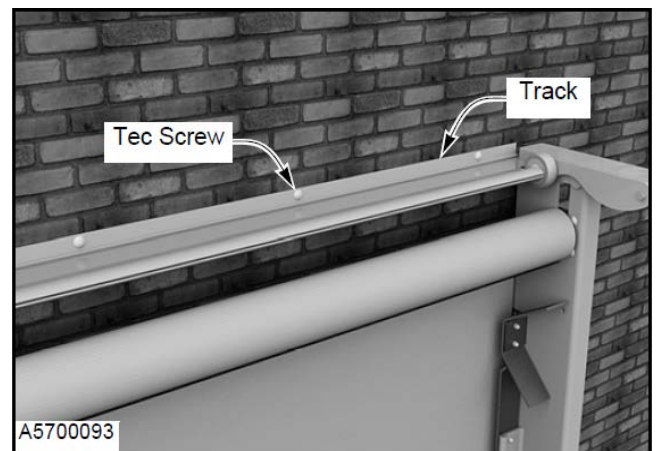

Figure 26
4. Mount track to wall. NOTE: Hardware is NOT provided choose hardware appropriate for your installation. (See Figure 26)